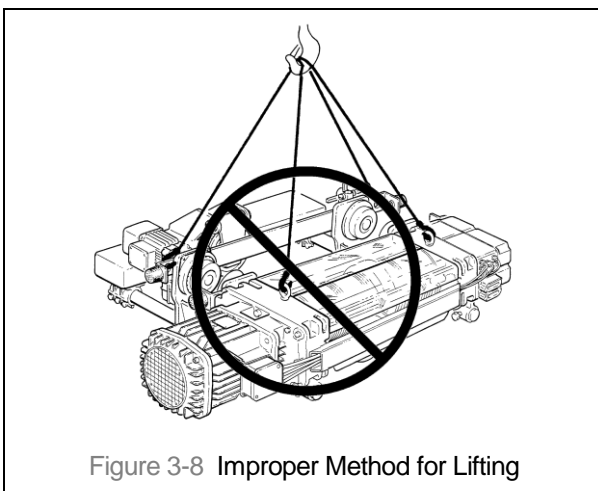

Figure 3-8 Improper Method for Lifting
- 7) **⚠ WARNING** When installing the trolley hoist on a beam, ALWAYS raise the hoist into position with the trolley assembled together and securely attached to a pallet. Raise the trolley hoist with a forklift, lifting platform, or other similar means. NEVER use slings to raise and install the trolley hoist onto the beam (see Figure 3-8).